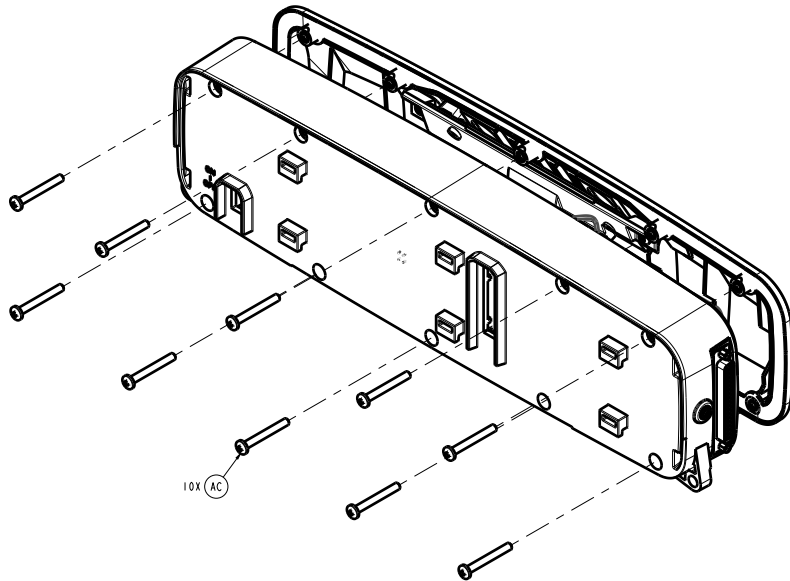

Figure 4 – Removing the cover
6. Using a #2 Phillips screwdriver, remove the ten screws (AC) that secure the front cover to the body (Figure 4). Save the screws and front cover.
7. Unplug the two battery cables and discard the battery (700000341245) (V).